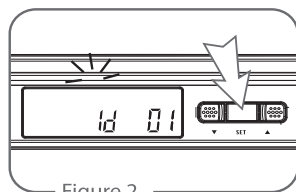

Figure 2
- Press "Set" button ③ for 3 seconds, LCD Panel will begin flashing.
- Press "Set" twice to enter "ID Code" setting window. (Figure 2)